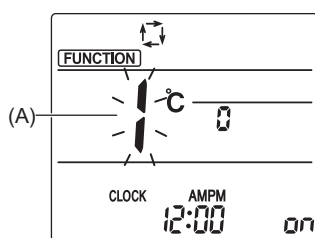
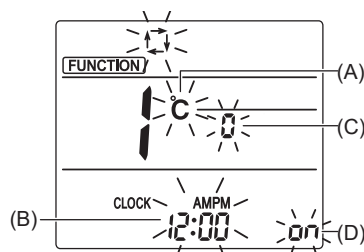

Fig. 6-11
Fig. 6-12
1. Press the **MODE** button (1) to stop the air conditioner.
2. Press the **MENU** button (2). The Function setting screen will be displayed and the function No. (A) will blink. (Fig. 6-11)
- Press the **↓** button (4) to change the function No.
3. Check that function No. "1" is displayed, and the **SET** button (3) press the button (3). The display setting screen will be displayed. (Fig. 6-12)